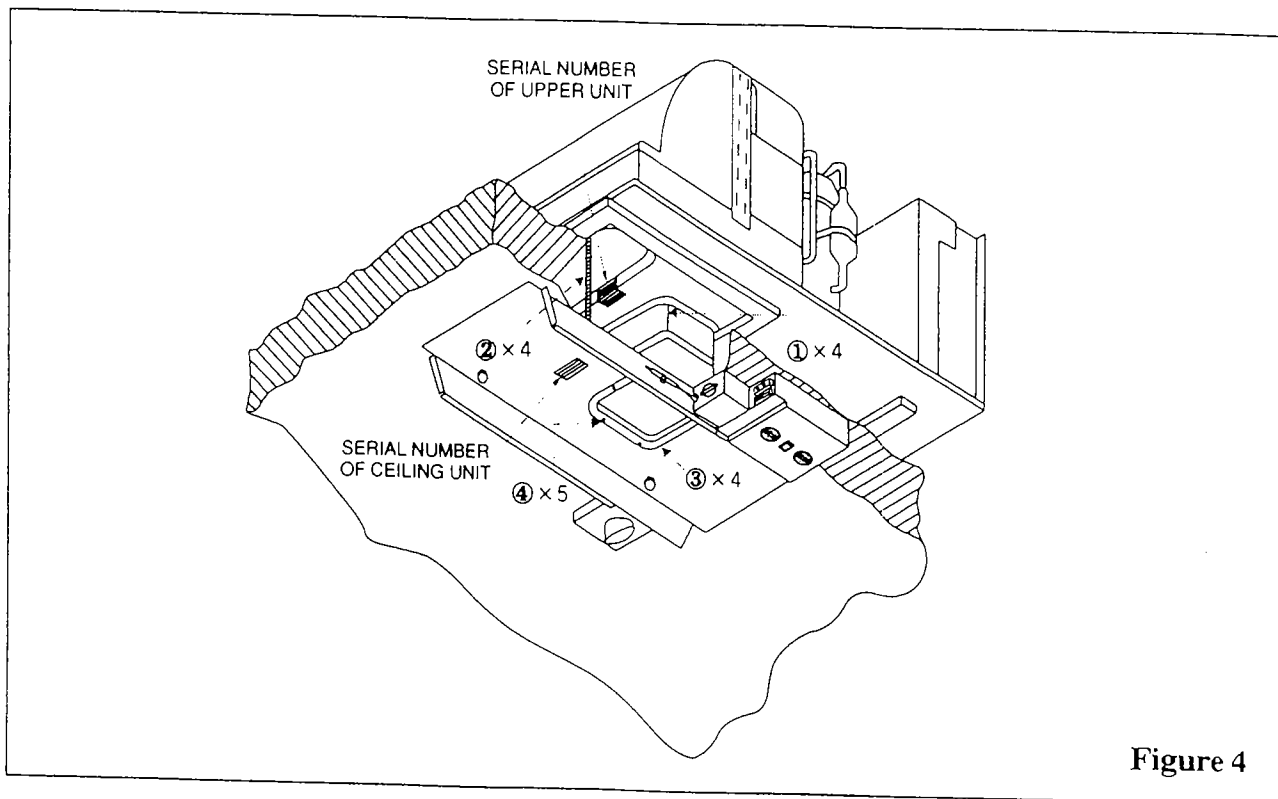

Figure 4
- 3** Before the ceiling assembly can be mounted to the roof top air conditioner, the fabric duct collar must be fastened to the basepan of the air conditioner with 4 screws (See ①, Figure 4).
- 6** Secure the ceiling assembly frame to the roof top air conditioner with the mounting bolts (See ②, Figure 4). You must start (thread) the mounting bolts by hand to avoid cross-threading. **DO NOT START THE MOUNTING BOLTS WITH AN AIR GUN.** The mounting bolts should be tightened evenly. Do not over-tighten each bolt. The bolt tightening process is complete when the basepan gasket has been evenly compressed to 60%.
- 7** Pull the fabric duct collar through the ceiling assembly frame opening and pull the four corners to extend below the duct opening (See ③, Figure 4).
- 9** Fasten each side of the fabric duct with fitting the duct plate to the ceiling assembly plate with 5 screws (See ④, Figure 4). Trim any excess fabric that may extend beyond edge of duct plate.